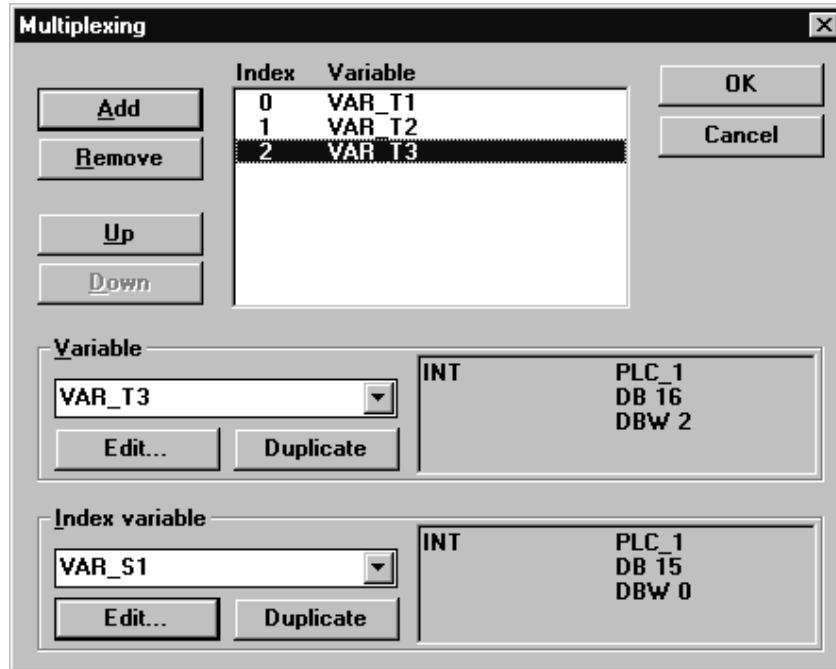

Figure 7-21 Multiplexing Dialog Box
8. Repeat steps 5. and 7. for variables *VAR_T2* and *VAR_T3*. Figure 7-21 shows the appearance of the corresponding configuration.